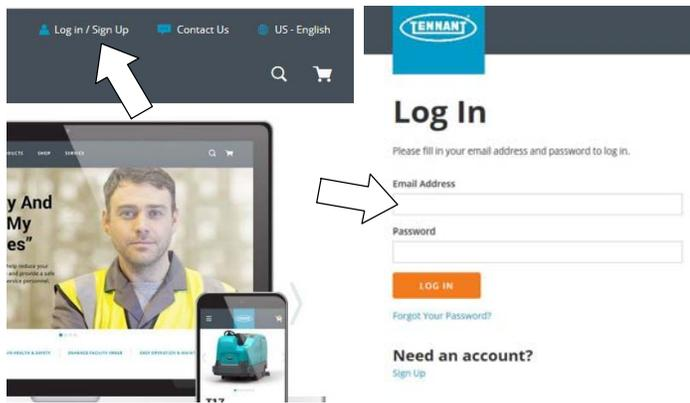

Fig. 21
1. Log in or Sign Up to create an account (Figure 21).